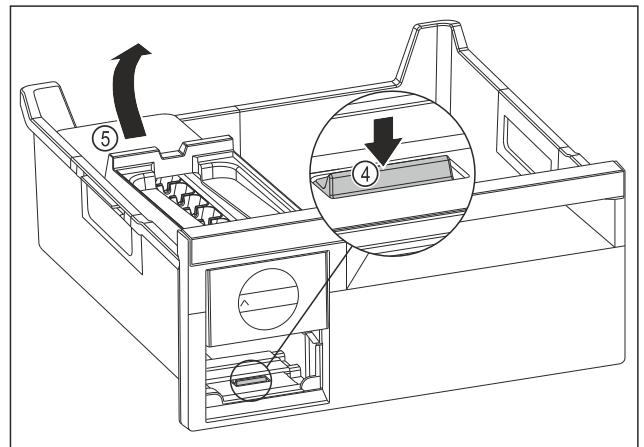

Fig. 134
- ▶ Removing the EasyTwist-Ice body: Use your finger to press the tab Fig. 134 (4) downward while at the same time lifting the EasyTwist-Ice body Fig. 134 (5) from behind with the other hand.